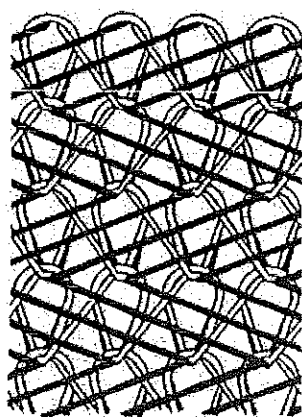

Figure 1
- (e) State two (02) knitting machines that employ sinkers to assist in the knitting process. (02 Marks)
- (i) Draw the lapping diagrams for the front and back guide bars, which are denoted by the loop diagram of the warp knit fabric structure in the Figure 1.